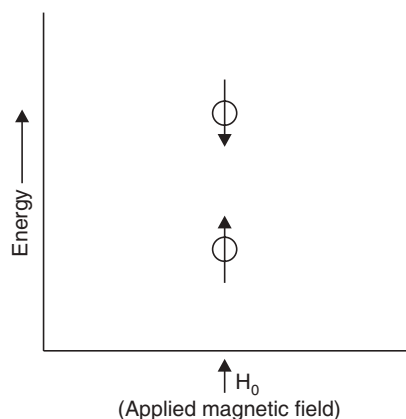
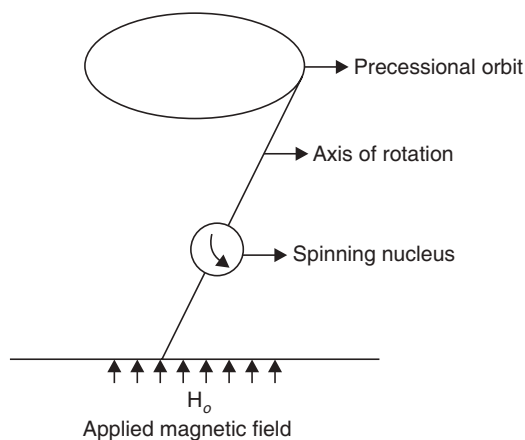

Fig. 24.11 Energy levels of a proton.
Fig. 24.12 Precession.
*nmr* is a powerful analytical technique to evaluate the structures of carbon compounds. The technique is used (i) to identify unknown compounds, (ii) to check for impurities and (iii) to study the shapes of molecules. In medicine, magnetic resonance imaging uses *nmr* to detect the hydrogen nuclei in the human body, especially in water and lipids. The term 'nuclear' interprets the technique that detects nuclei of atoms such as hydrogen-1 (proton). The term 'magnetic' interprets the nuclei that act like tiny magnets that can line up either in the same direction or in the opposite direction to an external magnetic field. The term 'resonance' is the absorption of energy in the form of radio waves with the frequency corresponding to the size of energy jump as the nuclei flip from one alignment in a magnetic field to the other (Fig. 24.11).
Thus a proton ( $I = \frac{1}{2}$ ) can assume only one of the two possible orientations corresponding to the energy level of  $\pm \mu H_0$ . One with respect to the direction of the applied magnetic field and the other is aligned against the direction of the applied field (Fig. 24.11).
Unless the axis of the nuclear magnet is oriented exactly parallel or antiparallel with the applied magnetic field (Fig. 24.11), there will be a certain force by external magnetic field to so orient the spinning nucleus. But because the nucleus is spinning, the effect is that its rotational axis draws a circle perpendicular to the applied field. Such an effect is shown in Fig. 24.12. This motion of the nucleus is called **Precession**.